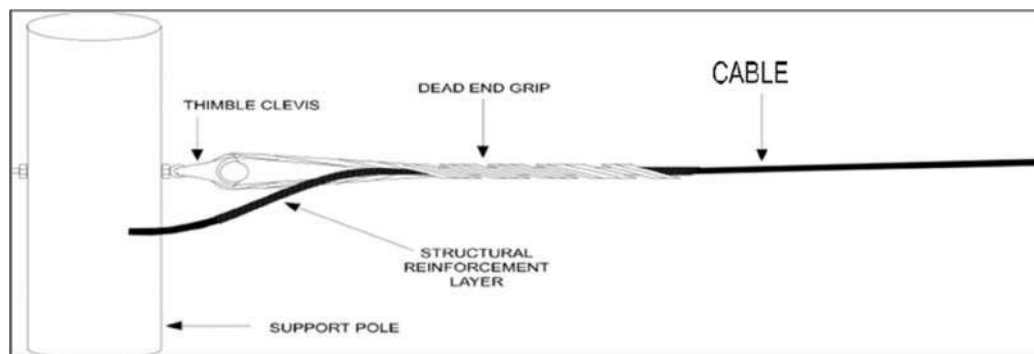

Figure: 2 – Dead end Assembly
- a. Dead end assemblies are used at the point of cable termination, or where the cable angle is greater than 20°. See Figure 2 below for illustration of a Dead end Assembly.